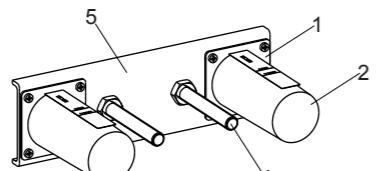

Fig.1
As fig.1 shown mark sure the number 38 on the temperature handle is aligned with the dot on the faucet body before your action. Pull out the temperature handle kit(36). As fig.2 shown remove stop kit(37).
NOTE: The out surface of the finished wall should be between the MAX and MIN marks on the protectors(2) as Fig.1 shown.